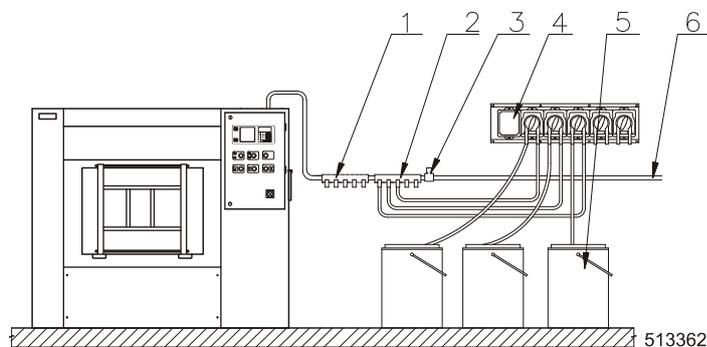

Fig.4.4.F Liquid soap supply connection
You can connect an external dosing of liquid soaps to the machine. Connect the liquid soap supply hoses to the liquid soap pump inlets. Connect the pump outlets to any vertical mixer inlets. Lead the hose for the external liquid soap supply from the mixer into the machine in the area for the water valves of the machine and connect into the tube with inside thread G1/2" to the hopper knee of the drum. (The coupling part is not part of the delivery of the machine). Secure the hose connected on the inlet tube with a clamp. Connect the water supply, fig.4.4.F, pos.6 on the inlet of electrical water valve (3), which is connected to the mixer inlet. The mixer can be used for 1 up to 5 liquid soap supplies. If there is a need to connect more than 5 liquid soap supplies, use another mixer. Connect the mixers in series (1).